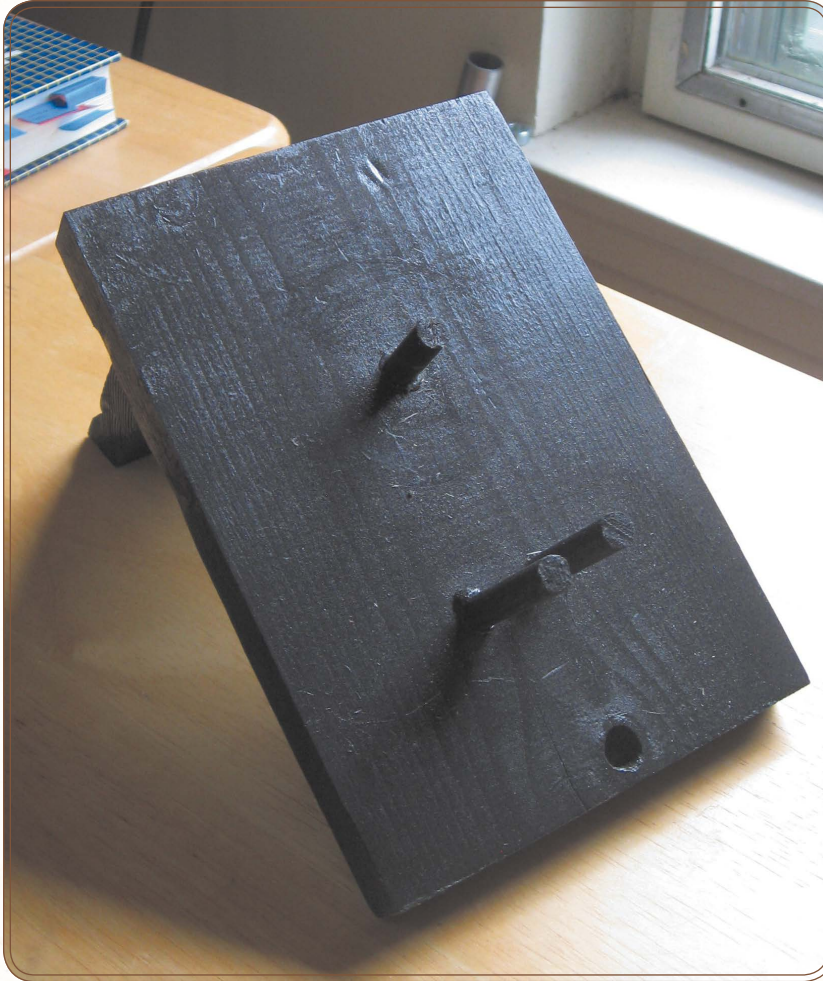

Figure 7.8: The base with the prop and axle and pins added
4. Use glue to attach the prop to the base as shown in Figure 7.8. Again let everything dry.